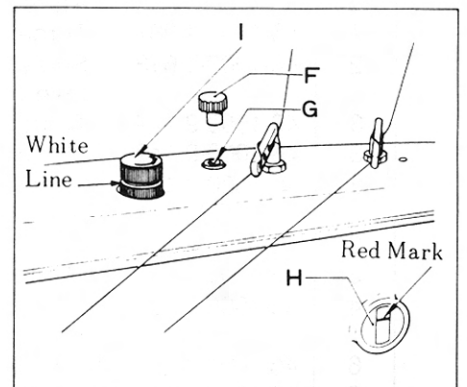

Figure 4
4. Lubricating the Sewing Head (Figure 4)
Remove the oil plug (F) and pour oil into the oil inlet (G) until the oil level in gauge (H) reaches the red mark. To start the flow of oil, turn the oil feed button (I) to the white line as shown in Figure 4. **Note:** The oil feed button must be returned to its starting position when the machine is not in use.